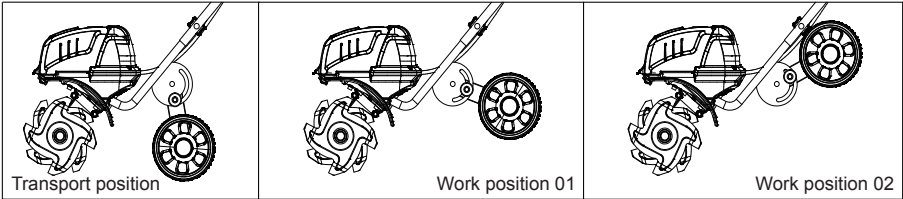

Fig. 7
1. The wheels can be adjusted to 3 different positions for better cultivating results (Fig. 7).
- Switch the product off. Ensure that the wheels are set to the transport position (see Fig. 7.).